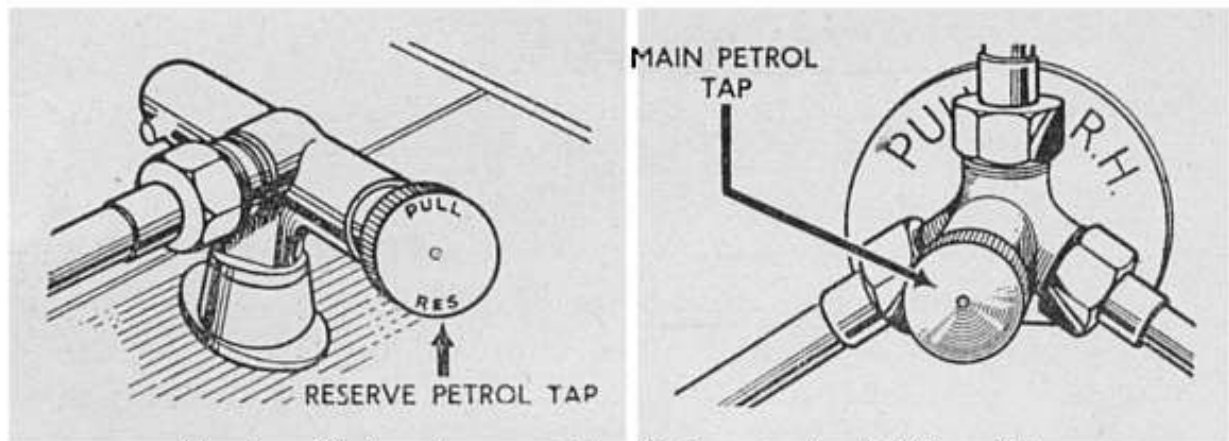

Fig. 3. Main and reserve petrol taps—standard OX model.
**Main tap.** On right-hand side of vehicle, just in front of the tank (see Fig. 3). Pull it out to draw on the right-hand tank. Push it in to draw on the left-hand tank. Always use the right-hand tank first.
**Reserve tap.** On top of left-hand tank (see Fig. 3). Keep it pushed in when the main supply is in use. Pull it out when you wish to draw on the reserve (3 gallons).